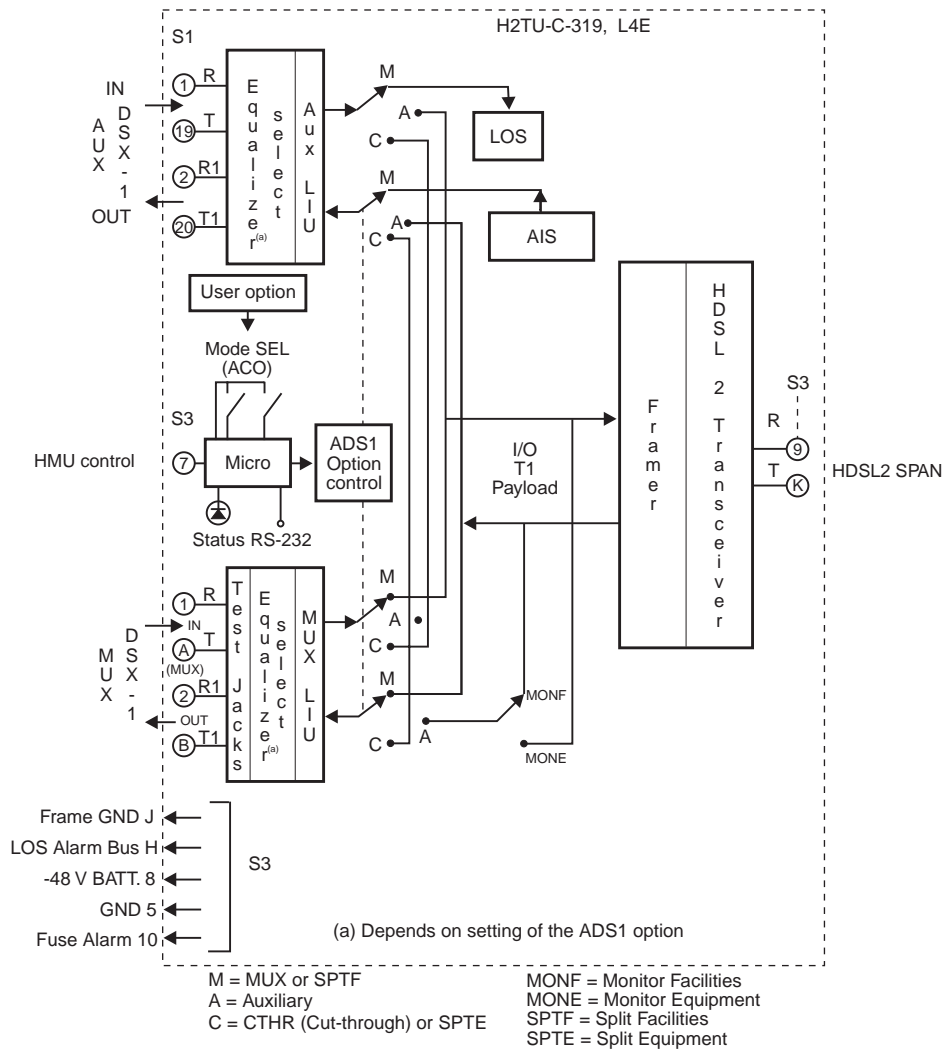

Figure 36. H2TU-C-319 List 4E Block Diagram
Figure 36 shows a block diagram of the H2TU-C. The H2TU-C receives a 1.544 Mbps DSX-1 data stream from the DSX-1 digital cross connect interface. The H2TU-C contains a DS1 frame synchronizer controlled by an 8-bit microprocessor that determines the type of framing on the DS1 stream and synchronizes to it. The H2TU-C recognizes Superframe (SF), including D4, or Extended Superframe (ESF) framing.